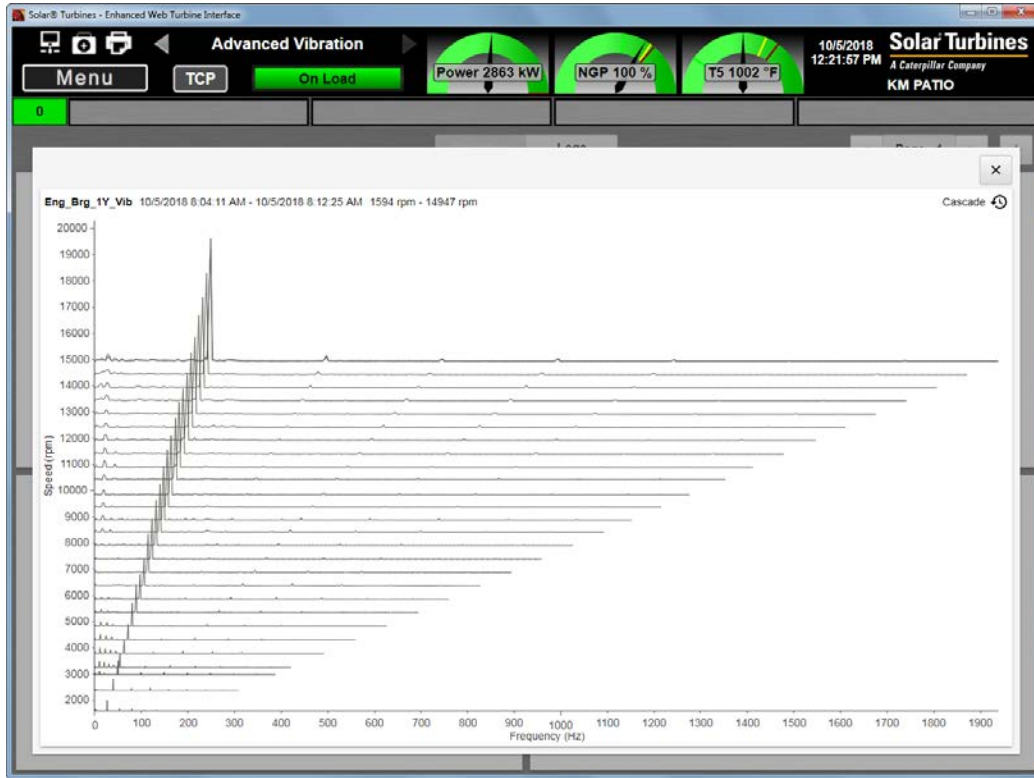

Figure 8. Cascade Plot
2. The Cascade plot (Figure 8) shows individual spectrums displayed over a change in speed.